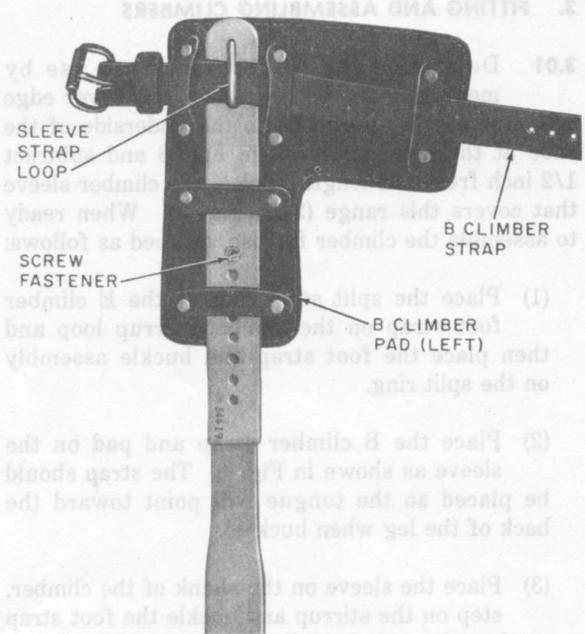

Fig. 6—B Climber Strap and Pad Installed on Climber
2.11 The B climber strap (Fig. 6) consists of a 22- or 26-inch strap with a buckle permanently attached. The B climber strap is used to hold the pad on the leg iron and to fasten both to the workman's leg when the climber is worn.
- (1) Place the split steel ring of the E climber foot strap on the climber stirrup loop and then place the foot strap and buckle assembly on the split ring.
- (2) Place the B climber strap and pad on the sleeve as shown in Fig. 6. The strap should be placed so the tongue will point toward the back of the leg when buckled.
- (3) Place the sleeve on the shank of the climber, step on the stirrup and buckle the foot strap so the stirrup is held firmly against the arch of the shoe. Adjust the sleeve to a position that is most comfortable.
- (4) Place one of the slotted hexagon head set screws through the hole in the sleeve that is aligned with the threaded holes in the climber and tighten the setscrew to hold the sleeve in place.